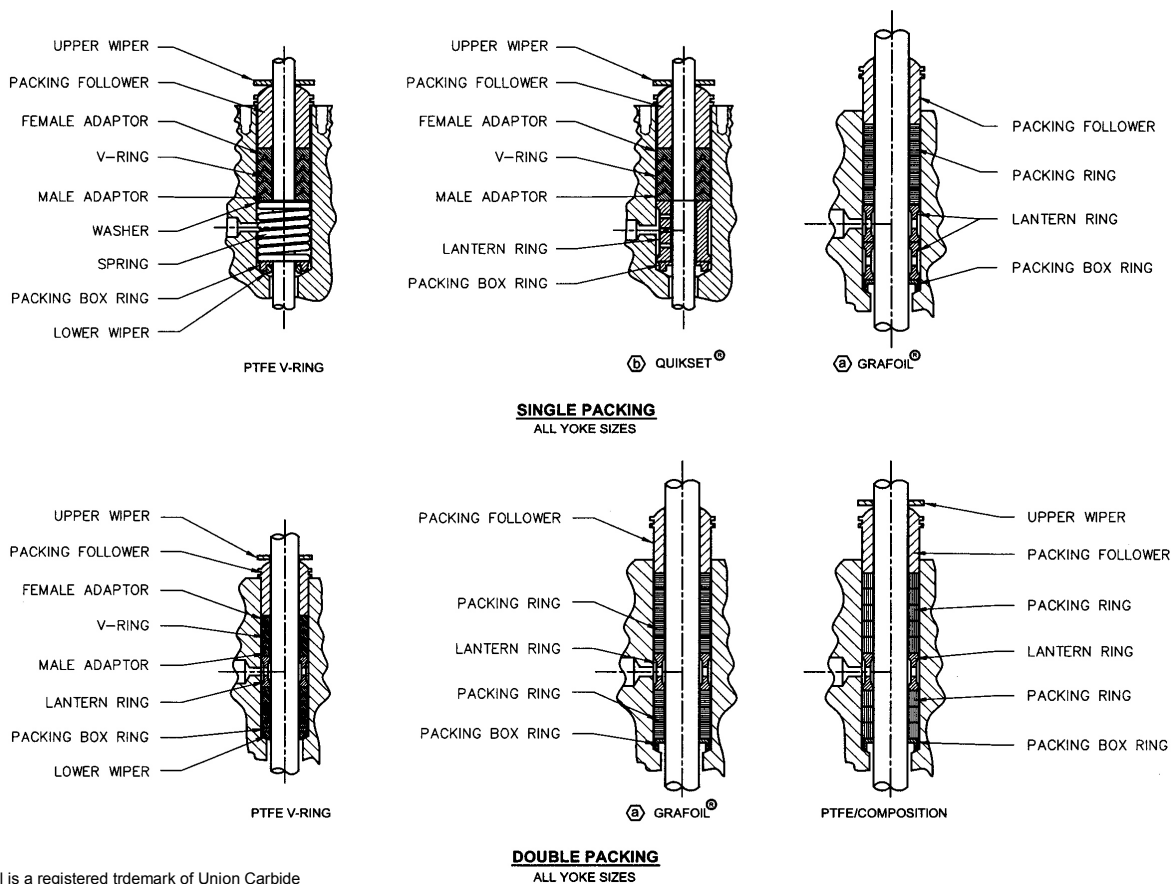

Figure 4: Packing Arrangements
- Complete the installation of the packing as illustrated in Figure 4.